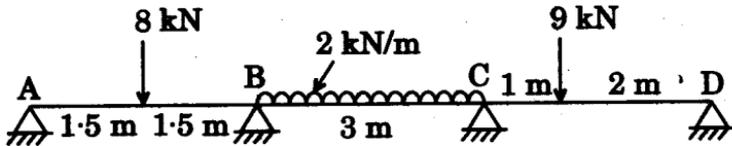

Figure 3
4. A horizontal beam ABCD is supported on hinged support and is continuous over three spans of 3 m each as shown in Figure 3. Draw the BMD if the support A settles by 10 mm, B settles by 30 mm and C settles by 20 mm. Take $I = 2.4 \times 10^6 \text{ mm}^4$, $E = 2 \times 10^5 \text{ N/mm}^2$. 14